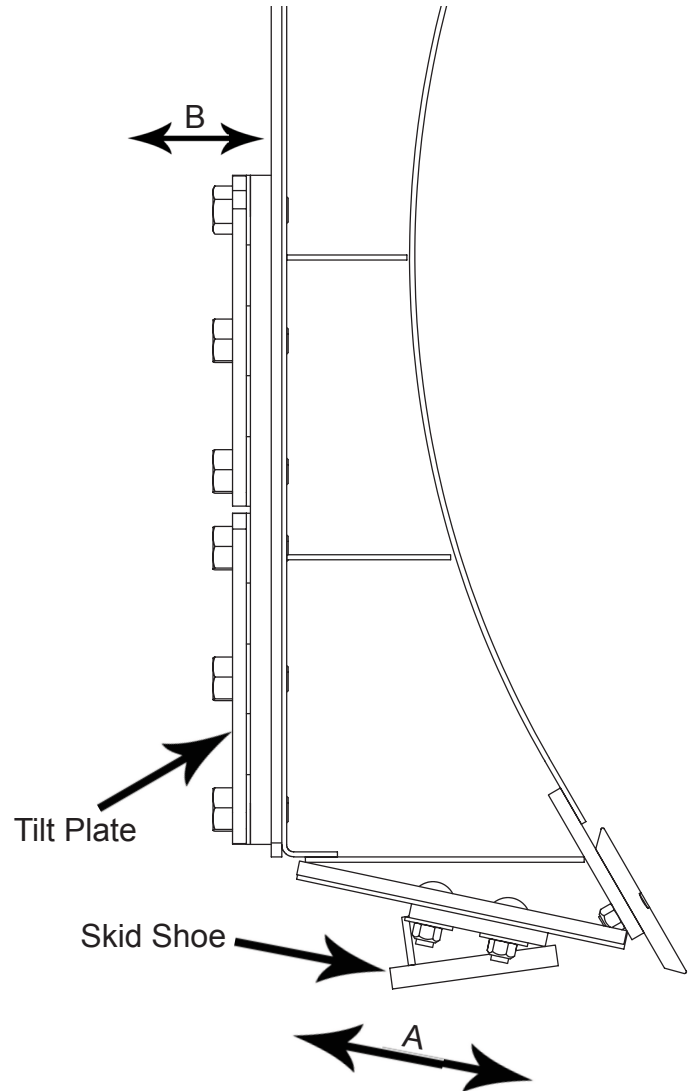

Figure 1
2. Loosen nuts and set skid shoe depth by sliding the shoe back and forth in direction 'A' shown in Figure 1.
2. Add or remove washers as needed to adjust tilt-way clearance to have  $1/16''$  -  $1/8''$  of clearance in direction 'B' shown in Figure 1.